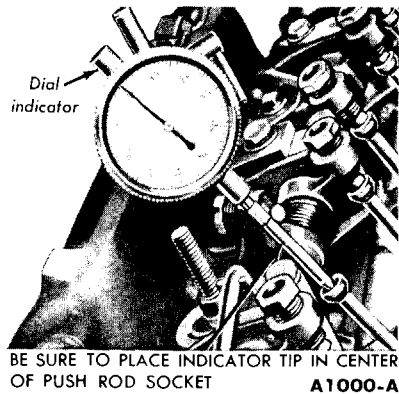

FIG. 1—Camshaft Lobe Lift—Mileage Maker Six or 292 V-8
2. Make sure the push rod is in the tappet socket or the lifter push rod cup, then install a dial indicator in such a manner as to have the actuating point of the indicator in the push rod socket and in the same plane as the push rod movement (Fig. 1 or 2).